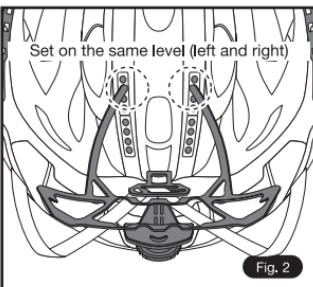

Fig. 2
② Set the height of the arm on the same level left and right, then push the ends in to the holes. **Fig. 2**